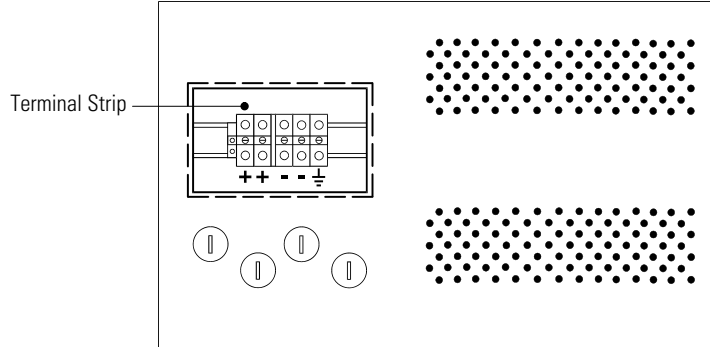

Figure 22. RBC-3 Terminal Strip
Make the ground connection at the battery cabinet terminal strip ground (or earth) lug inside the cabinet (see Figure 22).
5. Connect the positive (+) battery cable to the positive (+) terminal, and connect the negative (-) battery cable to the negative (-) terminal (see Figure 22).